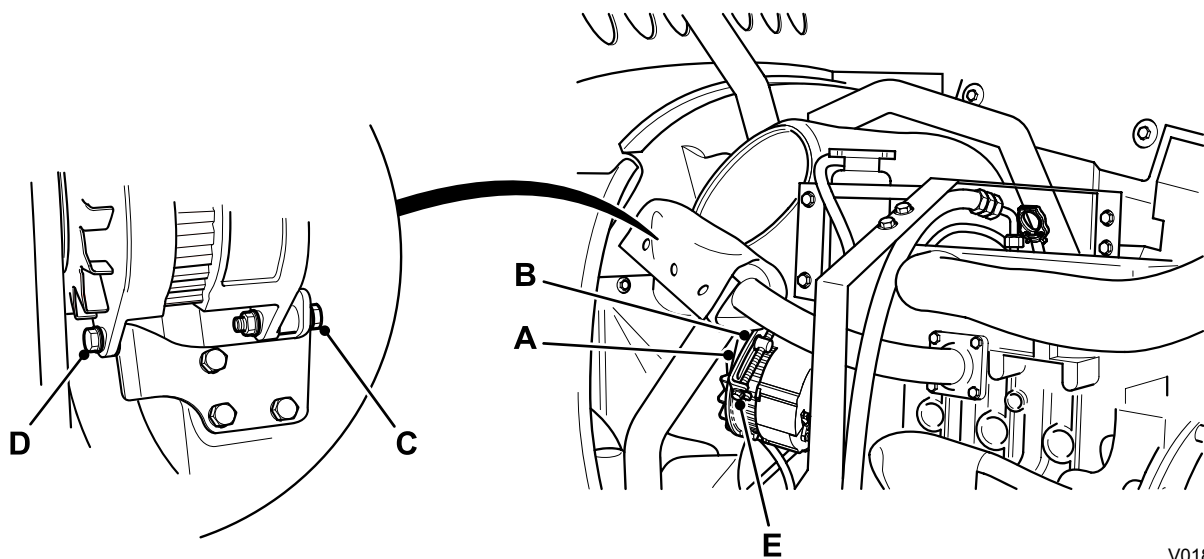

Fig 16.
- 2 Depress the fan belt **A** at the centre between the crankshaft pulley and the alternator pulley with a finger force of 49 Nm (11 lbf, 5 kgf) approx. The belt deflection should be 7mm (0.28 in) approx. ⇒ Fig 16. \(□ 3-35\)